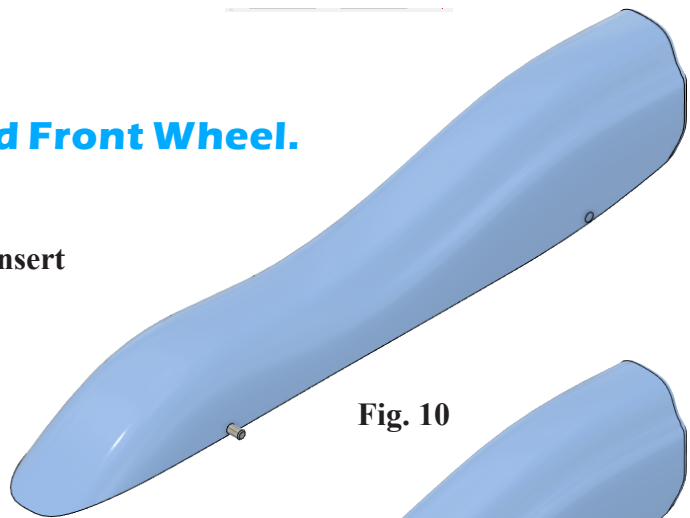

Fig. 10
Step 2. **Right click WASHER** file and click **Insert into Current Design**, Fig. 10.
Step 3. Click the **Square XY Manipulator**  on the Washer, Fig. 10.